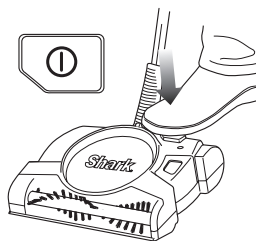

Fig. 5
- 1 Press the power button to start the unit. When finished cleaning, press the power button again to turn the unit off. (Fig. 5)